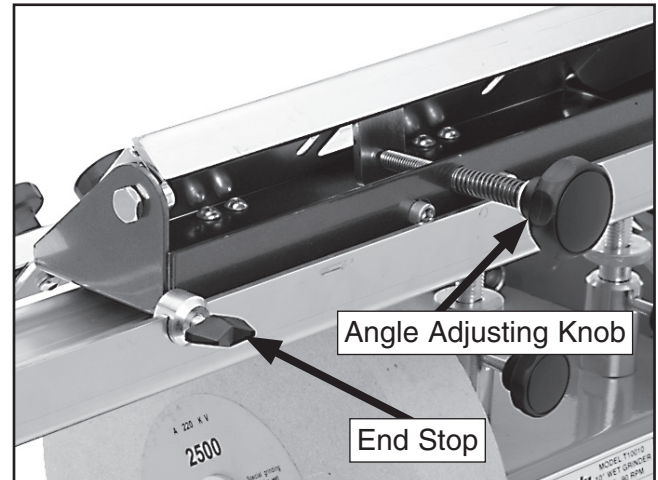

**Figure 10.** Blade mounting.
2. Rotate the blade clamp to the upright position (**Figure 10**).